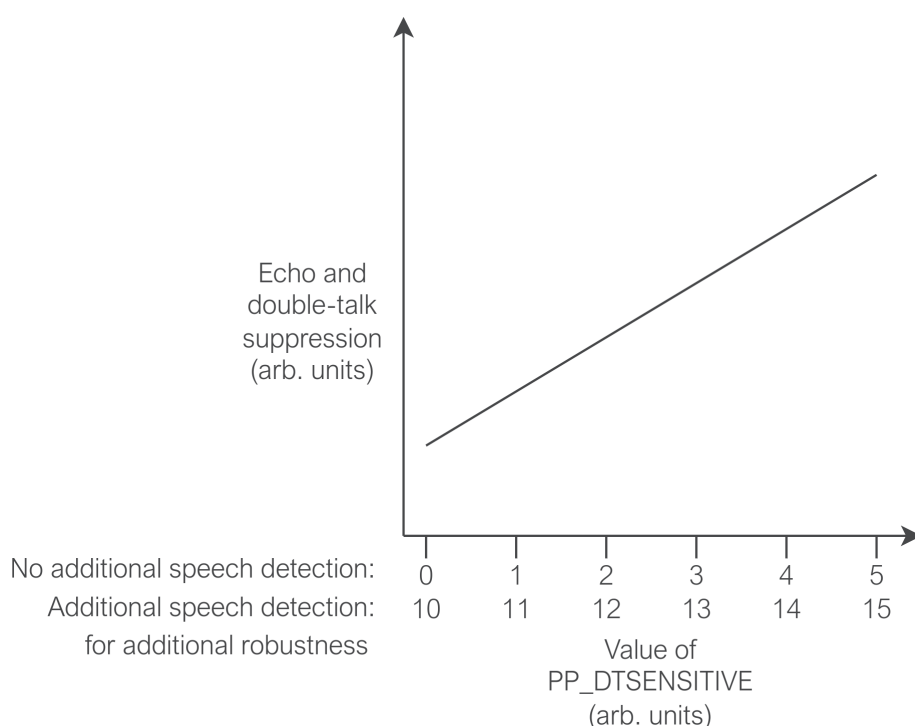

Fig. 4.2: Illustration of relationship between **PP_DTSENSITIVE** value and echo suppression
- **PP_DTSENSITIVE**: **PP_DTSENSITIVE** allows some control over the balance struck between double-talk performance and echo suppression, including the use of an optional near-end speech detector. This is summarised in Fig. 4.2; as echo suppression increases, double-talk performance will tend to decrease as more near-end is suppressed.